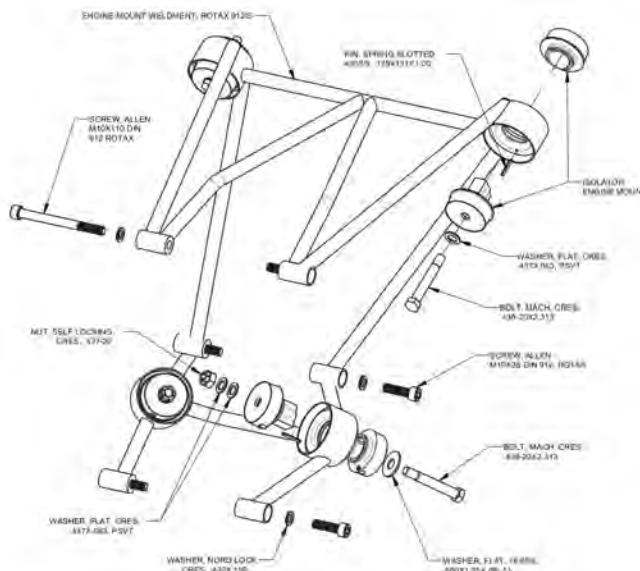

FIGURE 16-11
11. Loosely attach the engine at the aft two mounting points. (See Figure 16-11.) Install each bolt up from inside the fuselage with one washer under the head and with a self-locking nut with two washers under it. Do not tighten these fasteners yet.